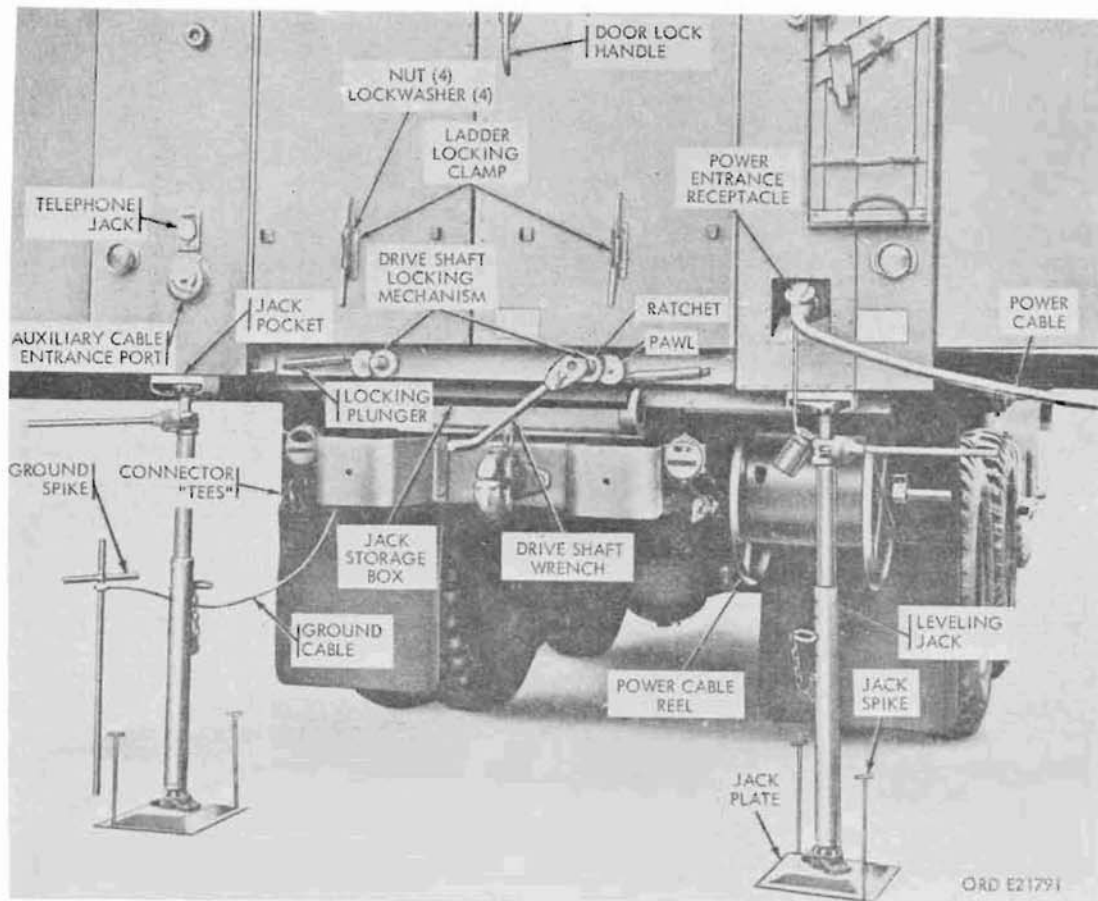

Figure 356. Van in operating position - rear view
- (1) **General.** The van electrical system includes three basic electrical circuits for the operation of its auxiliary equipment and vehicle lights. All circuits incorporate appropriately designed overload protection and control facilities described under specific headings later in this paragraph. The circuits include:
- (a) **The 24-volt dc system, powered by the vehicle batteries.** This system is used only for the operation of the van body clearance and blackout lights mounted on the four top outside corners of the van body. Connection to the vehicle electrical system is made by means of tee connectors inserted into the vehicle rear light circuit at the lower left-hand corner of the van body (fig. 356).
- (b) **The 120-208-volt, 3-phase, 60-cycle system, powered from an external source.** This system is used directly to furnish power to the 208-volt air conditioner unit, and is split into three single phases to furnish power to the 120-volt circuit breaker box. Connection to the van body is by means of a 4-wire cable and connector plugged into the power cable entrance receptacle at the rear of the van body (fig. 356).
- (2) **Power entrance receptacle.** The power entrance receptacle (fig. 356) is located on the lower right corner of the van rear panel. A spring-loaded, hinged cap locks the cable in the receptacle and prevents the entrance of foreign matter when the cable is removed.
- (3) 100-foot power cable and reel. The 100-foot power cable consists of a 4-wire rubber-insulated cable equipped at one end with a female receptacle to accommodate the 4-prong entrance receptacle, and at the opposite end with a male receptacle designed to fit the female receptacle of the outside power source. The cable is stowed on the power cable reel mounted on the right rear corner of the chassis frame (fig. 356) when the van is in the traveling position. A canvas boot is provided to protect the cable while in the stowed position.
- (18) Ground spike. The van electrical system ground spike (fig. 356) consists of a pointed steel spike to which the ground cable is attached. The other end of the cable is fitted with a terminal for at-
tachment to the ground spike connector at the rear of the van body. Handles are provided on the ground spike so it may easily be pushed into the earth. The spike is stowed in the jack storage box (fig. 356) at the rear end of the van when not in use.
325. Ladder Locking Clamp (Fig. 356)